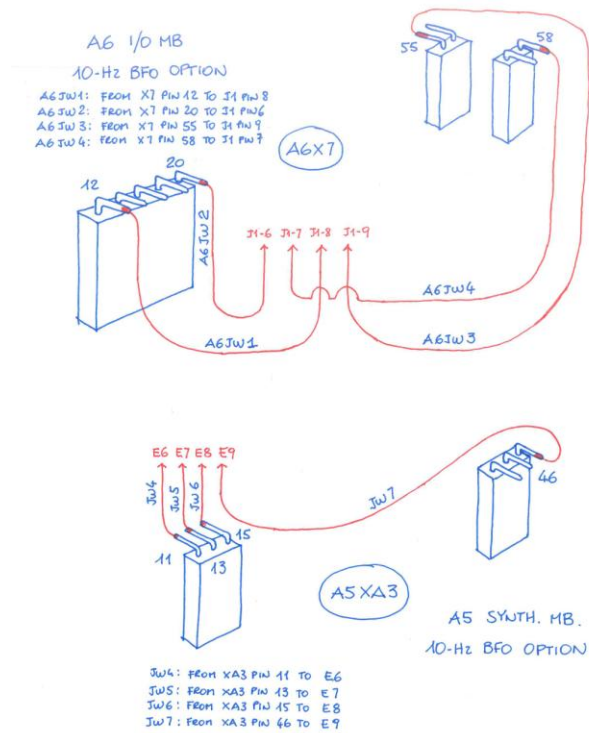

Figure 4: Alternative wiring on the A6 I/O MB and on the A5 Synth MB for the 10-Hz BFO Option; some strip-line female connectors and stranded wires are needed.
- Instead of using wire-wrapping technique, all the required wire connections can be installed by using PTFE-insulated stranded wires and standard strip-line female connectors that have to be inserted into the proper socket pins at one end and to be properly soldered at the opposite end. In this case one five-pole, two two-pole and two three-pole female connectors are required (as shown in Figure 4).